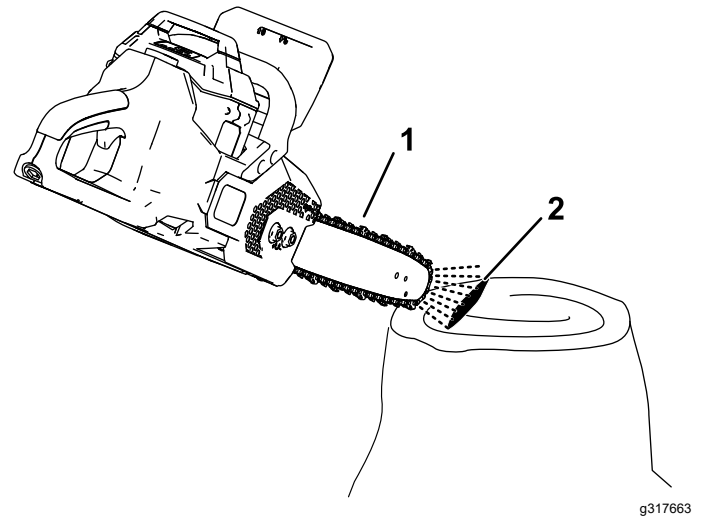

Figure 29
2. To ensure that oil is flowing to the chain, point the nose of the chain saw a few inches from a surface (e.g. paper, cardboard, a stump) and run the chain saw; you should be able to see a light spray of oil on the surface (Figure 29).